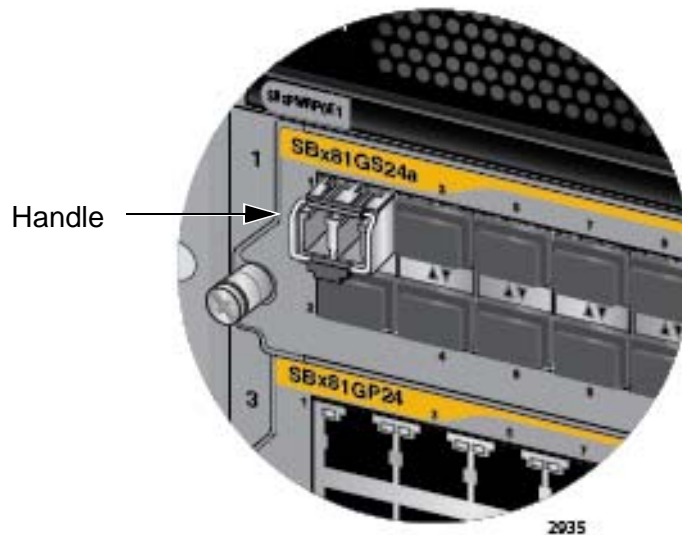

Figure 100. Verifying the Position of the Handle on a Transceiver
5. Before connecting the cable, verify the position of the handle on the SFP transceiver. The handle should be in the up position if the transceiver is in the top row on the line card, as shown in Figure 100, or the down position if the transceiver is in the bottom row.